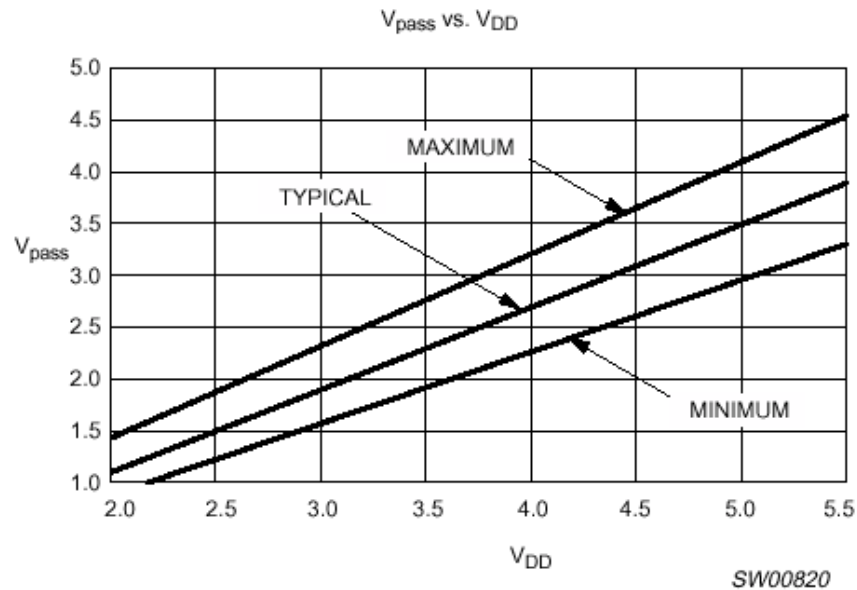

Figure 5. Voltage Translation
The voltage clamping can be advantageous when there is a need to communicate between two I2C voltage levels. The PCA954x will clamp the voltage to a value below its  $V_{DD}$ . Then pull-up resistors can be used to pull-up the output voltage of each individual branch to a suitable range. This can be seen in Figure 5.
**Answer:** Yes, a different voltage bus can be connected to the I/O of the PCA9544. This is shown in Figure 5. The PCA9544 powers up with the channels open (high impedance) so if the 2.5 V powers up after the 3.3V, there is no